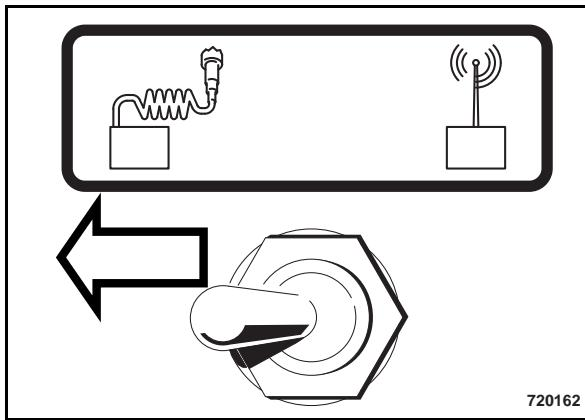

Fig. 37
- Before starting the engine switch the toggle switch for cable/radio remote control (Fig. 37) to the left to position "Cable remote control"